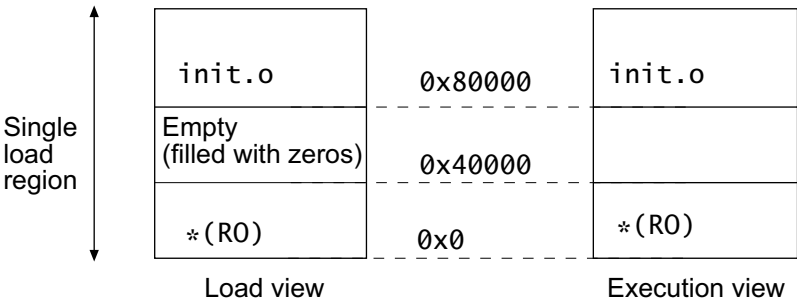

Figure 5-9 Memory Map for fixed execution regions
- Use the FIXED execution region attribute to ensure that the load address and execution address of a specific region are the same. See Example 5-3 on page 5-24 and Figure 5-9 on page 5-24.